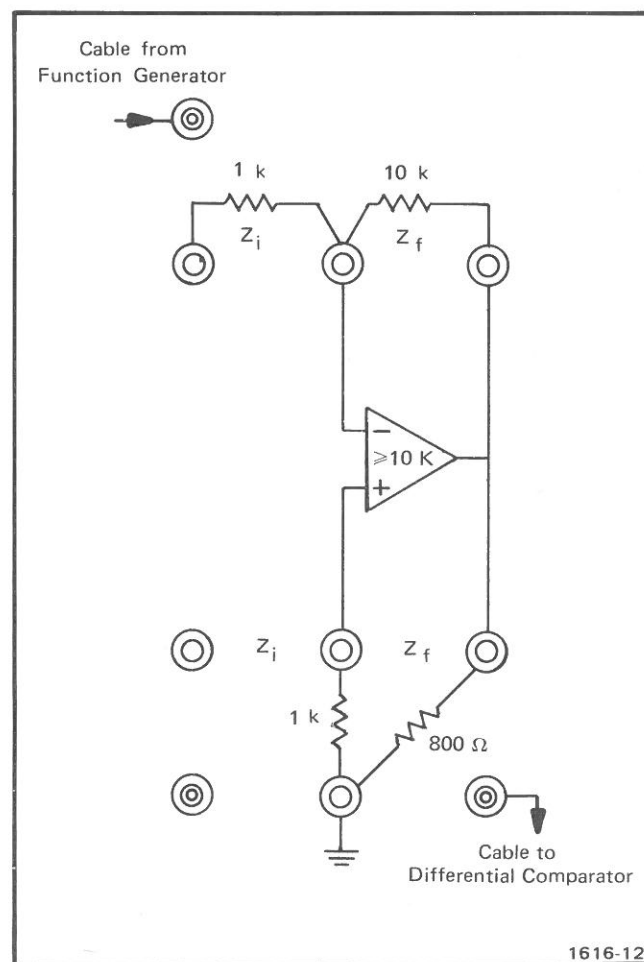

Fig. 2-3. Operational amplifier connected to check Common Mode Input Voltage Range.
b. Connect the 800 Ω , 10 k, and the two 1 k resistors to the terminals of the AM 501 as illustrated in Fig. 2-3.